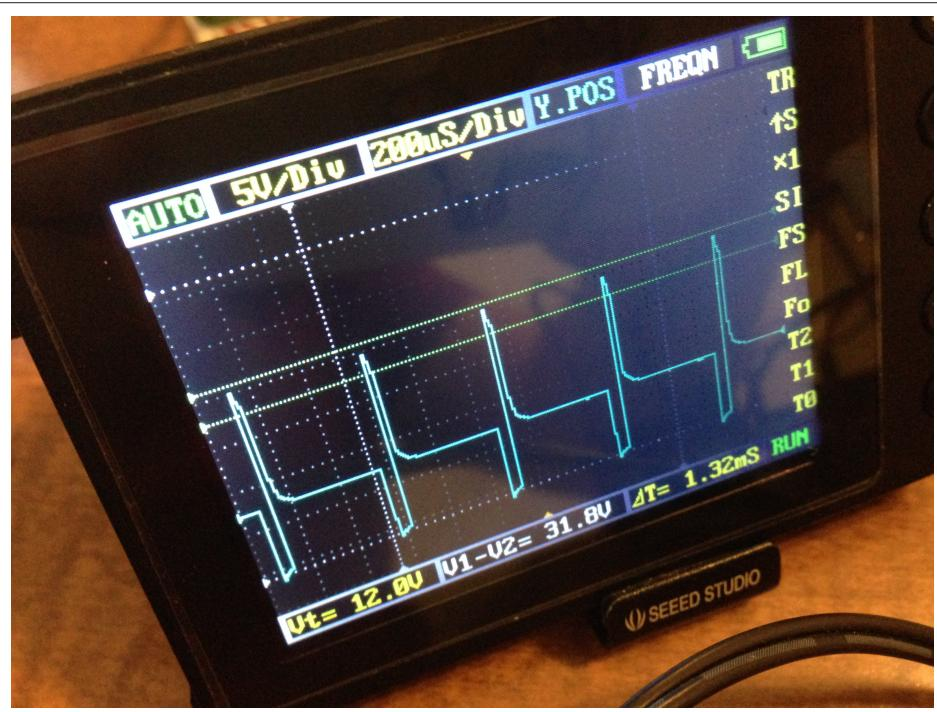

Figure 9-13. quickBot motor test showing kickback
- ➋ Make other simple parameters variables. Again, this makes it easy to update them. When creating this test, I found that the PWM frequency to drive the motors needed to be relatively low to get over the kickback shown in Figure 9-13. I also found that I needed to get up to about 70 percent duty cycle for my circuit to reliably start the motors turning.
- ⑧ The `M1_set()` and `M2_set()` functions are defined near the bottom and do the work of configuring the motor drivers into a particular state. They take a single argument of speed, as defined between -1 (maximum reverse), 0 (stop), and 1 (maximum forward).
- ⑨ Perform simple bounds checking to ensure that speed values are between -1 and 1.
- ⑩ The `analogWrite()` call uses the absolute value of speed, making any negative numbers a positive magnitude.